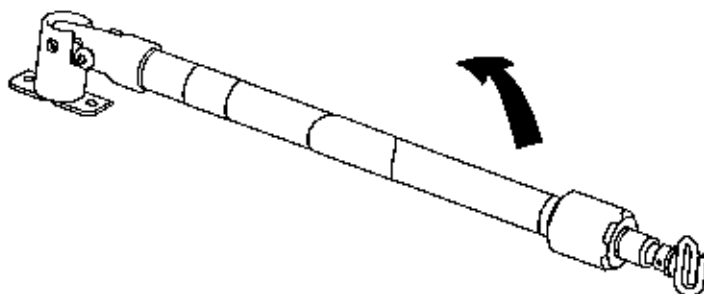

Figure 88
1. Lift and pivot the pole from the storage position and push down until it is locked into the receptacle (A).
2. To raise the height of the pole, turn the lock actuator (B) counterclockwise and pull up on the bottom telescoping portion (C) of the pole to raise it to the desired height.
3. Turn the lock actuator (B) clockwise to lock the bottom telescoping portion in place.
4. For a higher I.V. pole, pull up on section (D) until the spring clip (E) engages.
5. Hang I.V. bags on the I.V. hook (F).
6. To lower the I.V. pole, push in on the spring clip (E) and slide section (D) down into section (C). Turn the lock actuator (B) counterclockwise and slide section (C) into the bottom tube.
7. Turn the lock actuator (B) clockwise to tighten.
8. Lift up and pivot the pole down into the storage position (Figure 88).